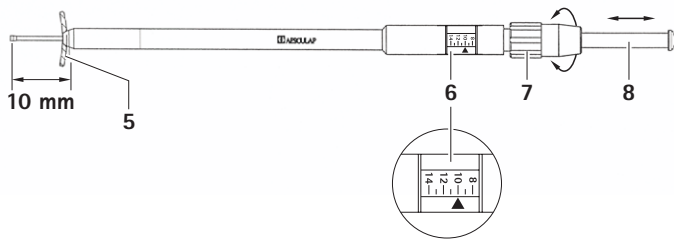

Fig. 3 Using the depth gauge FG866R
- Slide caliper **8** of depth gauge **G** in the required direction (e.g., 10 mm, see Fig. 3).